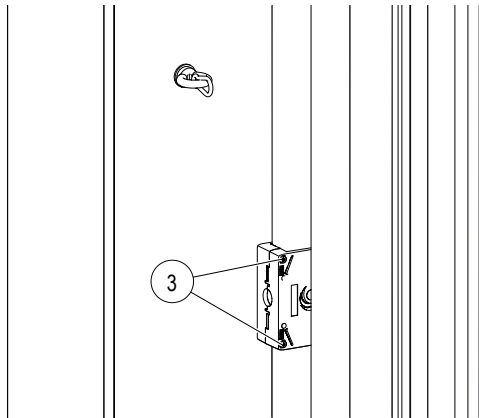

Fig. 39: Tighten the M4x40 cylinder nut (Item 3).
- Tighten the pre-mounted M4x40 cylinder screws (Item 3) of the housing halves to the prescribed torque (SW 3, torque: **2.5 Nm**) (see Fig. 39). **IMPORTANT:** The fall arrest device must be mounted pole by pole, otherwise access to the M4x40 cylinder screws will be difficult.